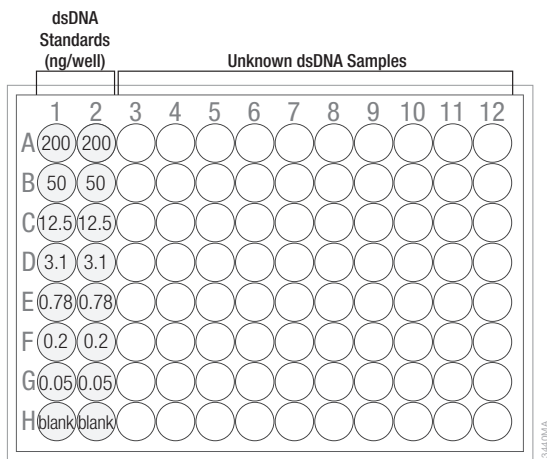

Figure 3. Dispense standard dilutions and blank samples in duplicate into Columns 1 and 2 of a multiwell plate.
5. Dispense 10µl of the dsDNA standards prepared in Table 1 above (labeled Standards A–G) to rows A–G of the multiwell plate (Figure 3). We recommend pipetting duplicates or triplicates of the standards.